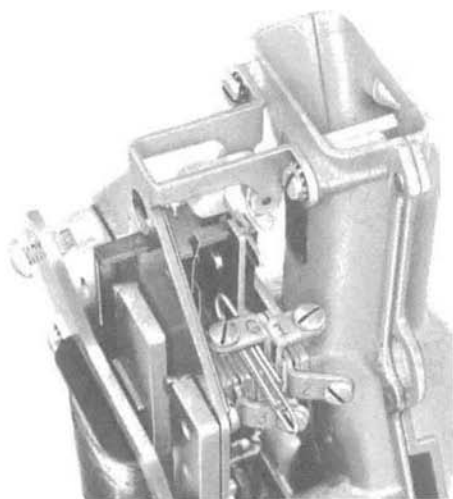

Fig. 40—Method of Strapping Ground Around Ground Contacts on Coin Relay
- (1) Provide ground on line by inserting paper clip or equivalent between ground terminal and spring pile-up of No. 4 spring (Fig. 40).